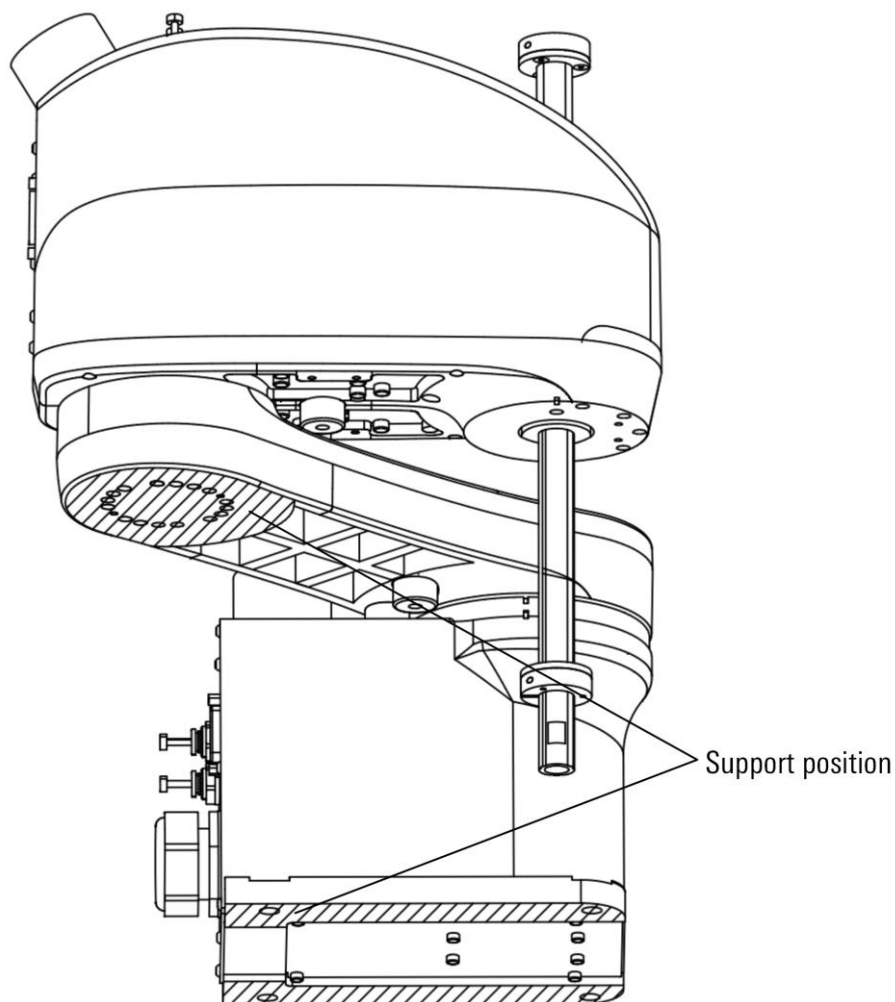

Figure 6-3 Schematic diagram of the supporting position of the handling manipulator
- When carrying the robot, please fix the robot on a carrying tool (such as a cart), or hold the shaded part (under the first arm and under the base, refer to Figure 6-3) with your hands and carry it by more than 2 people;